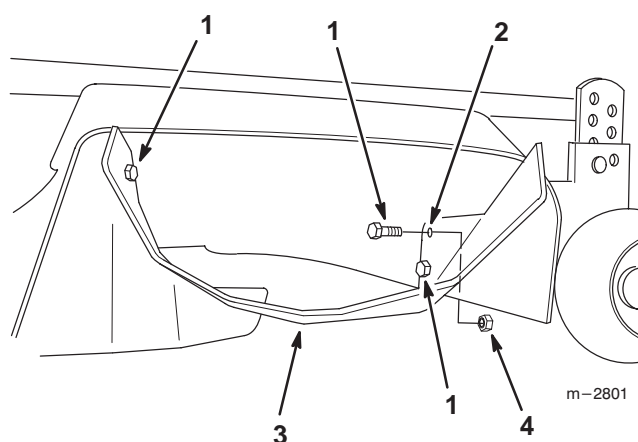

Figure 5
9. Position the deflector underneath the deck and align the front and rear deflector mounting holes with the drilled holes in the deck. Fasten the deflector to the mower deck with two (2) 5/16"-18 x 3/4" (19 mm) bolts and locknuts. Insert the bolts from the inside of the deflector (Fig. 5).
10. Using the deflector as a guide, mark and drill the one (1) remaining 11/32" (9 mm) deflector mounting hole in the front of the mower deck (Fig. 5).
11. Finish fastening the deflector to the mower with one (1) 5/16"-18 x 3/4" (19 mm) bolt and locknut (Fig. 5).